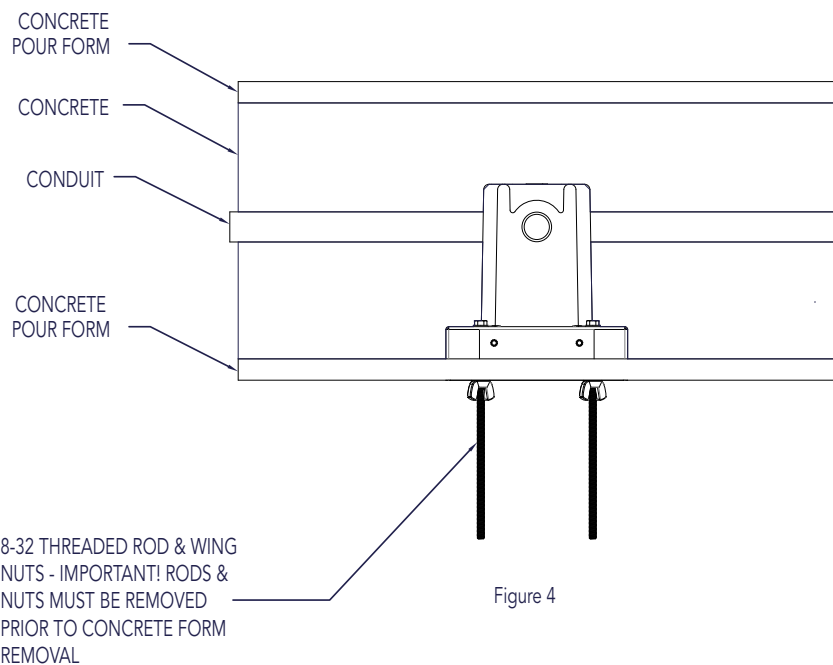

Figure 4
4. Pour concrete. **NOTE: DO NOT PUMP OR DROP CONCRETE DIRECTLY ON TOP OF THE RIS HOUSING (FIG.4).**